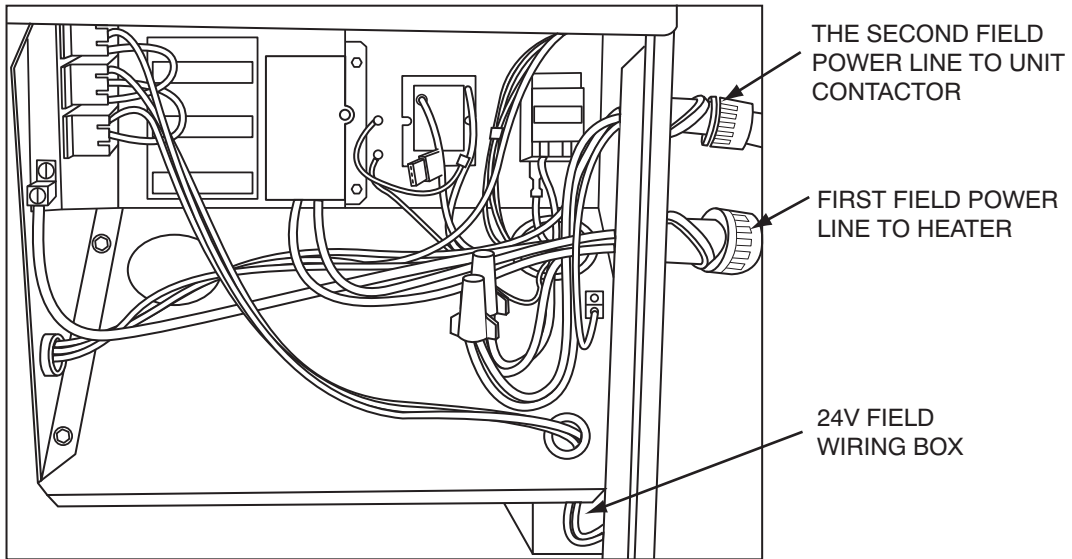

Fig. 12 - Dual Point Connections For Heater With Circuit Breaker
2. Connect low voltage wires as shown in unit schematic diagrams found on base unit installation instructions. These connections must be made in the 24v barrier section inside the unit panel (see Fig. 12 or Fig. 13).
3. Insert first field power line through the Electrical Panel bottom hole (see Fig. 12 or Fig. 13) and connect to electric heater as shown in their respective wiring diagram found on the heater accessory kit. Electrical heaters with factory installed circuit breakers must have their field lines connected to the breaker block lugs and electric heater without factory installed circuit breakers must have their field lines connected to the heater leads using wire nuts. Ground electrical equipment in the appropriate locations.
4. Insert second field power line through the Electrical Panel top hole (see Fig. 12 or Fig. 13) and connect to unit contactor black and yellow leads using wire nuts. Ground electrical equipment in the appropriate locations.